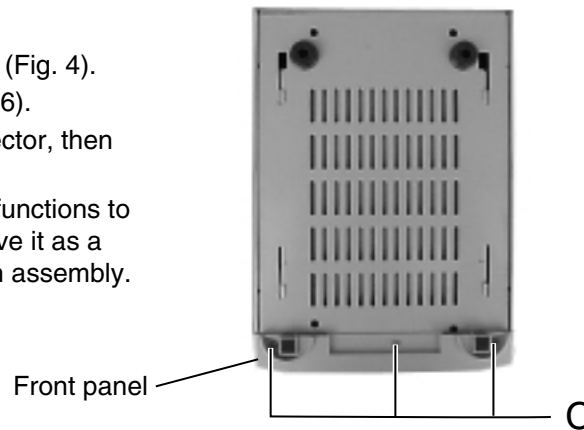

Fig. 3
SCMS is used to limit digital copies to one generation only. The principles are shown in Fig. 3.
[Fig. 3] Principles of SCMS
### ■ Removing the front panel (Figs. 3 to 5)
2. Remove the 3 screws C that retain the front panel from the bottom. (Fig. 3)